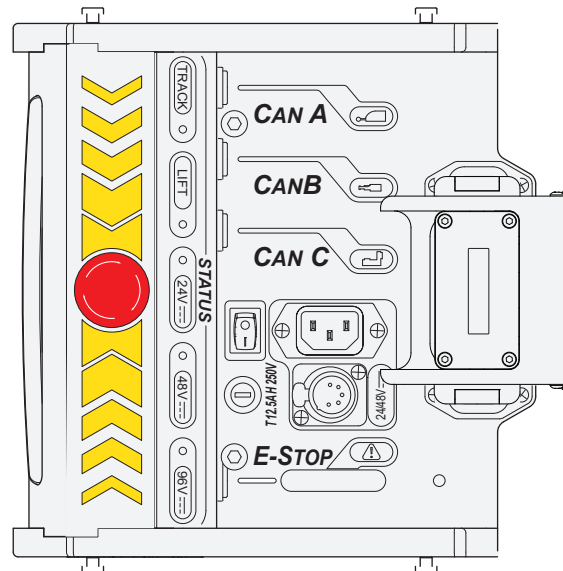

Figure 3.6 Connection Panel of the Furio SE Dolly, showing CAN Sockets (CAN A, CAN B, and CAN C)
- 20 m (65') data cable from the **Bottom Right Socket** of CA1 to the **CAN A** socket on the **Dolly A connection panel** (see **Figure 3.6**).
- 2 m (6'6") data cable from the **CAN C** socket on the **Dolly A** connection panel (see **Figure 3.6**) to either the **NETWORK A** or **NETWORK B** socket on the **robotic pan/tilt head**.
- 20 m (65') data cable from the **Bottom Right Socket** of CA2 to the **CAN A** socket on the **Dolly B connection panel** (see **Figure 3.6**).
- 2 m (6'6") data cable from the **CAN C** socket on the **Dolly B** connection panel (see **Figure 3.6**) to either the **NETWORK A** or **NETWORK B** socket on the **robotic pan/tilt head**.
- 20 m (65') data cable from the **Bottom Left Socket** of CA2 to the **CAN A** socket on the **Dolly C connection panel** (see **Figure 3.6**).
- 2 m (6'6") data cable from the **CAN C** socket on the **Dolly C** connection panel (see **Figure 3.6**) to either the **NETWORK A** or **NETWORK B** socket on the **robotic pan/tilt head**.